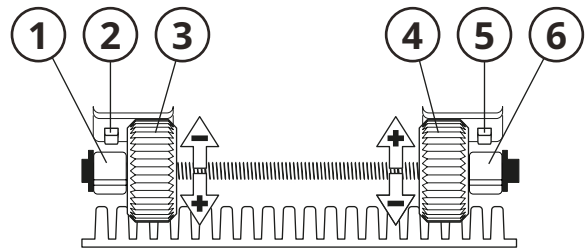

Fig. 7
Rotate the drum counterclockwise as viewed from the motor side until the roll-out wheel (3, Fig. 7) is obstructed by the stop clip (1). This is indicated by a rattling sound.
5. Remove stop clip for roll-out (1, Fig. 7).
9. Remove stop clip for retraction (6, Fig. 7).
2. Adjust end positions by turning the retraction and roll-out wheels (3, 4, **Fig. 7**).